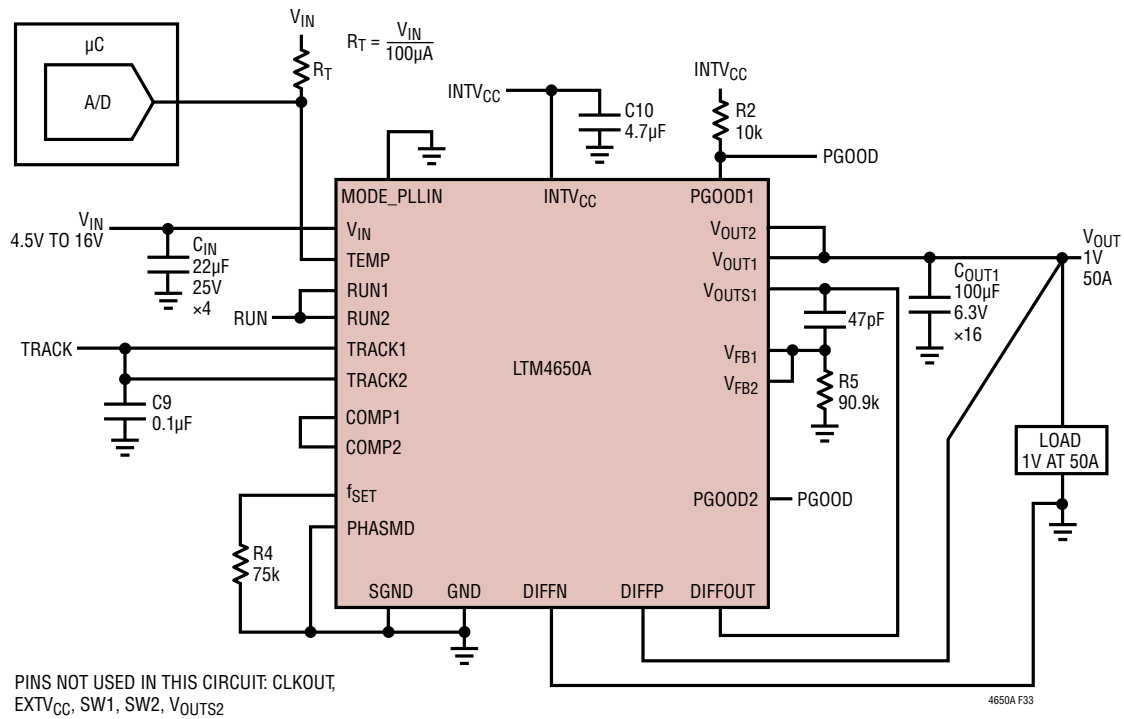

Figure 33. LTM4650A 2-Phase, 1V at 50A Design
**Table 6. Output Voltage Response vs Component Matrix (See Figure 33) Load Step Typical Measured Values**